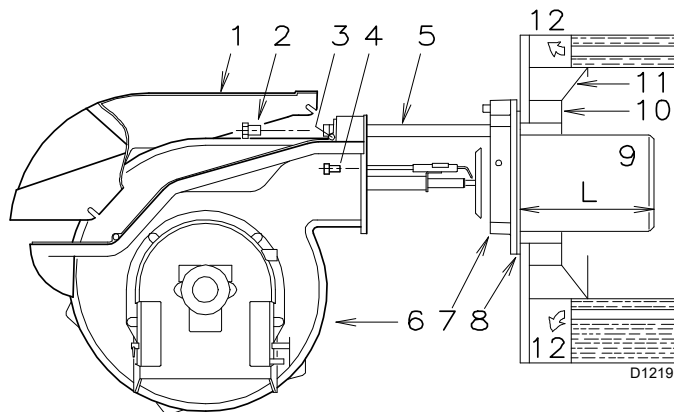

Fig. 11
For boilers having a water-cooled front the refractory fettling 10)-11)(Fig. 11) is not required unless it is expressly requested by the boiler manufacturer.
Once this operation has been carried out (if it was required), secure flange 7)(Fig. 11) to the boiler plate interposing the supplied gasket 8). Use the 4 screws provided after having protected the thread with anticruffing products.
- Remove the nuts 1)(Fig. 11 on page 15) and the disk 2).
- Use spanner 3)(Fig. 11 on page 15) to change the nozzles.